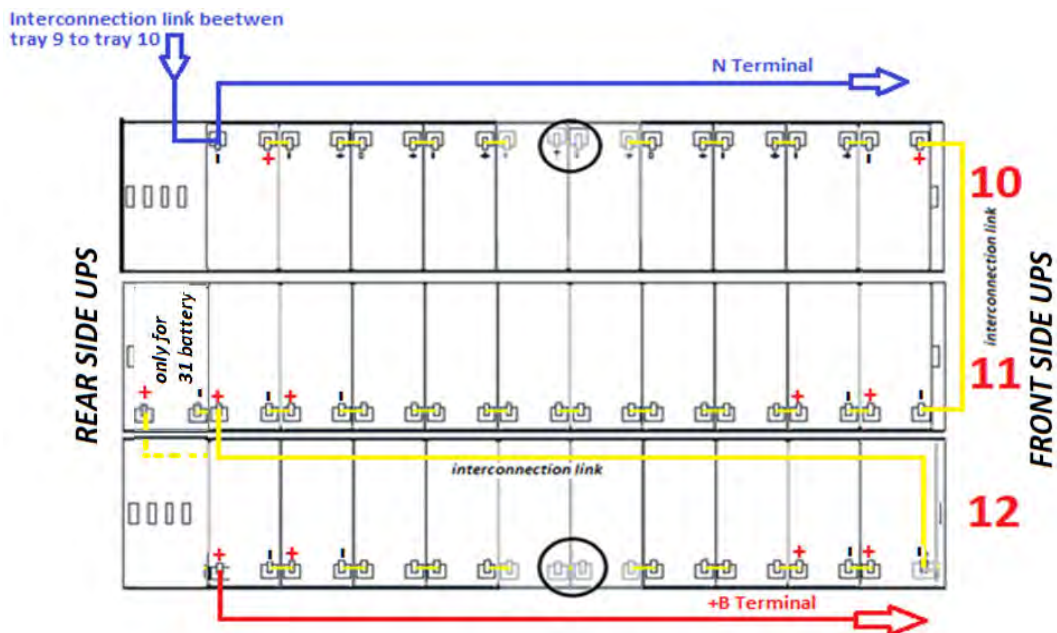

Figure 19 - View from above Level No.4 with battery connections
12) Wire the level as indicated in Figure 19. Leave the circled jumpers disconnected.